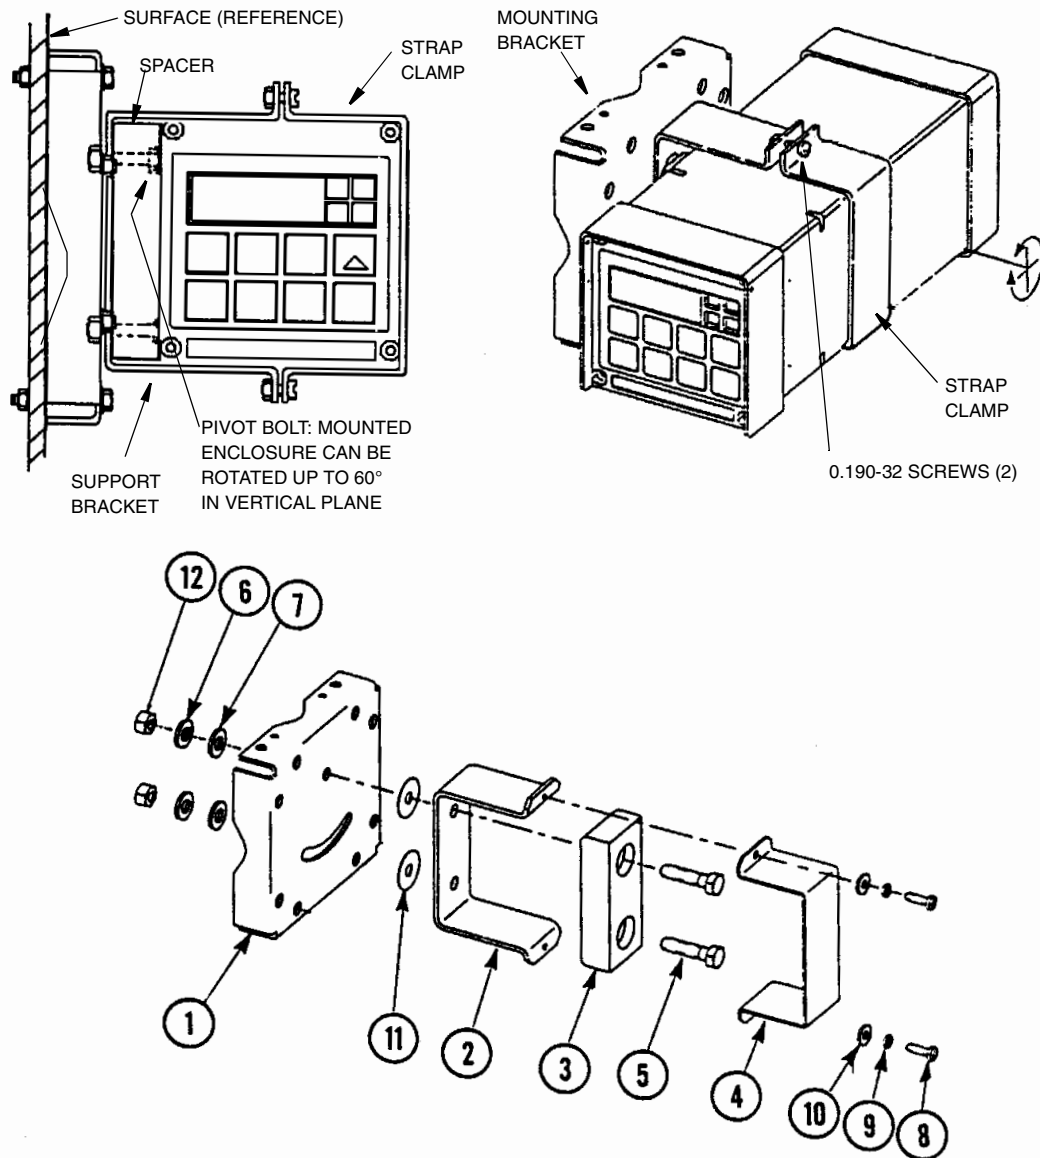

Figure 8. Metal Enclosure - Fixed Mount
2. Referring to Figure 8, use mounting bracket (1) as a template for drilling four holes into the mounting surface. Notice that holes in the mounting bracket are 8.74 mm (0.344 in) in diameter. Do not attach the mounting bracket to the surface at this time.
- a. Place hex bolts (5) through spacer (3) into support bracket (2).
- b. Slide nylon washers (11) over bolts (5).
- c. Slide bolts through universal mounting bracket (1) and fasten assembly together with hardware designated 7, 6, and 12.
- d. Attach universal mounting bracket (1) to wall.
4. Slide the analyzer into support bracket (2) and slide strap clamp (4) onto the analyzer. Using two screws, nuts, and washers, attach the strap clamp to the support bracket to secure the analyzer.